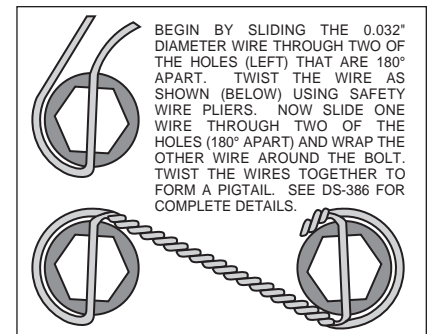

Figure 5. Safety Wire Diagram
- With the larger I.D. side of the rotor (4) facing away from the hat (3), bolt rotor (4) to hat (3) through the backside of the rotor using washers (5) and bolts (6). Using an alternating sequence, apply red *Loctite*® 271 to the threads and torque bolts to 140 **in-lb**. For an added measure of security, the bolts may be safety wired using standard 0.032 inch diameter stainless steel safety wire as shown in Figure 5. Please refer to Wilwood's data sheet DS-386 (available at www.wilwood.com/Pdf/DataSheets/ds386.pdf) for complete safety wire installation instructions.
- Slide the rotor registration adapter (18) onto the axle register on the axle flange with the smaller O.D. facing toward the rotor/hat (3). Align the correct hole pattern in the hat with the stud pattern on the axle flange. **NOTE:** Some OEM and aftermarket axles come with stud sizes larger than 0.50" diameter. Verify stud size and have a qualified machine shop drill the hats to the correct size, if necessary. Slide the hat/rotor assembly (3 and 4) over the wheel studs covering the bracket kit assembly (1) and against the axle flange face. Check to be sure the hat seats squarely against the hub. Install a couple of lug nuts (finger tighten) to keep the rotor/hat assembly in place while continuing with the installation.